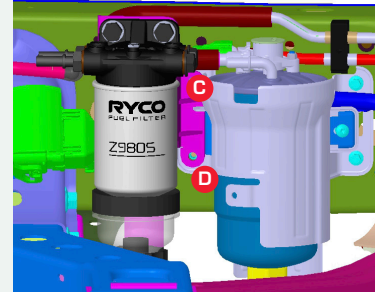

FIGURE 5
- 4 Position the bracket on the left hand place of the OE filter bracket as per FIG. 5, placing point C at the top OE filter bracket holes, placing point D at the bottom place of the OE filter bracket.
- 5 Refit the factory M6 bolts at point C & D point onto the factory filter bracket as per FIG. 5.